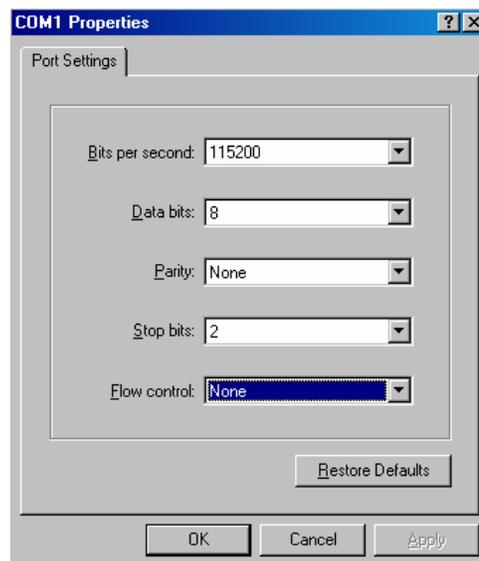

Figure 4-3: COM1 Properties
8. Press the <Enter> key or select OK. This opens the “COM Properties” window as shown in Figure 4-3.
9. Enter the information as listed in Figure 4-3.